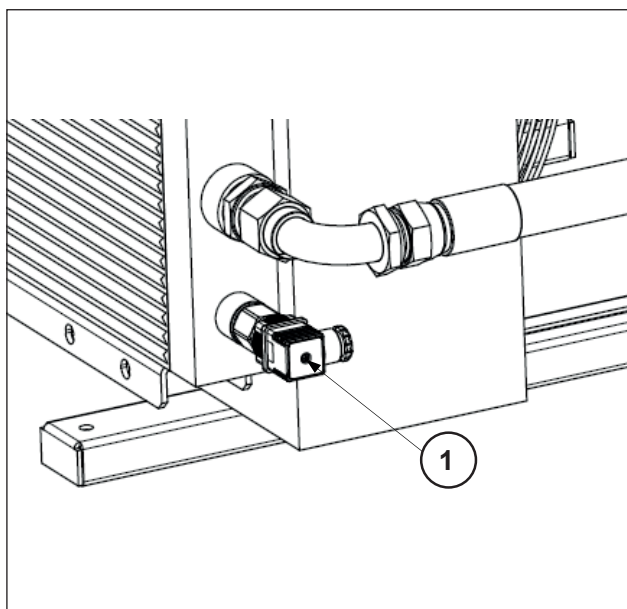

Fig. 18
The heat exchanger is equipped with a thermostat that is activated at 50°C and controls the fan intervention (pos.1 Fig. 18.)